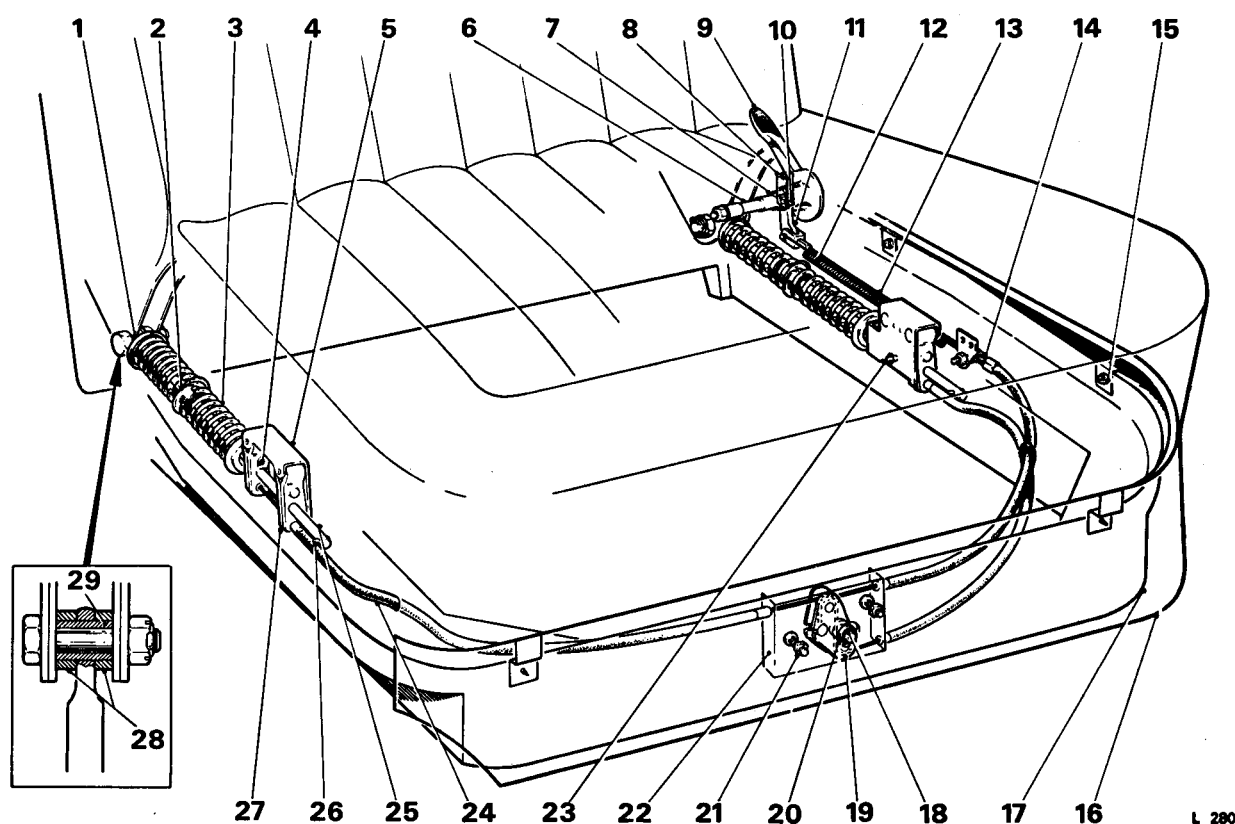

FIG. S25 FRONT SEAT RAKE MECHANISM (Early 4-Door Saloon Cars)
- 3.(a) **Early cars** (see Fig. S25). Using the primary cable adjuster (item 14) adjust the length of the cable so that any slackness is just removed.
Note Annotations depict adjustment points only. Refer to similar illustration Figure S25 for description of other components comprising the seat rake mechanism.
Early cars (see Fig. S25)
Removing and fitting the mechanism is straightforward once the seat has been removed (see *Front seat – To remove*) if reference is made to Figure S25 for early cars or to Figure S26 for late cars; however, the following points should be observed.